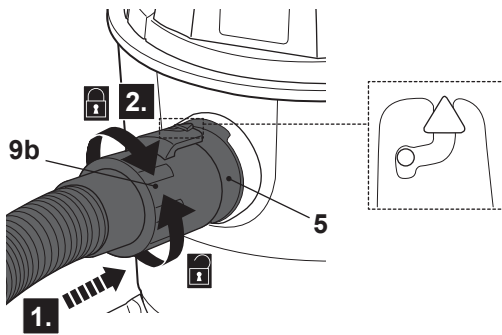

Fig. 11
- > Align the arrow on the hose connector (9b) with the tab on the outer opening of the air inlet (5) and slide the hose connector into the outer opening of the air inlet (Fig. 11, step 1).
- > Rotate the hose connector (9b) clockwise and ensure the connection is properly secured (Fig. 11, step 2).